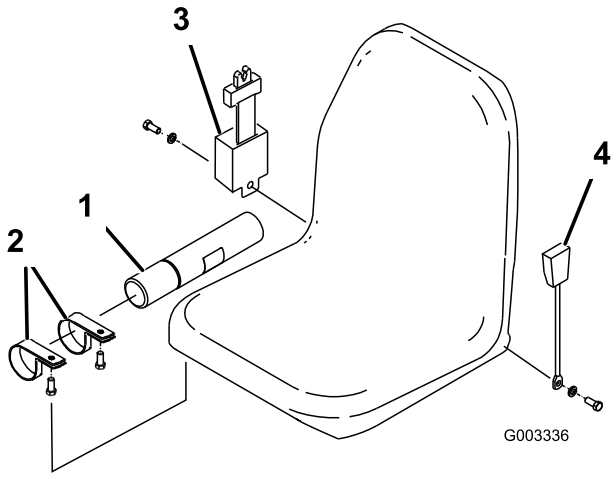

Figure 3
1. Mount the manual tube to the seat suspension with the 2 R-clamps included in loose parts (Figure 3).
2. Install the seat belt to each side of the seat with a bolt and lock washer, supplied in loose parts (Figure 3). The seat belt retractor is to be mounted to the right side of the seat and the seat belt buckle to the left side.